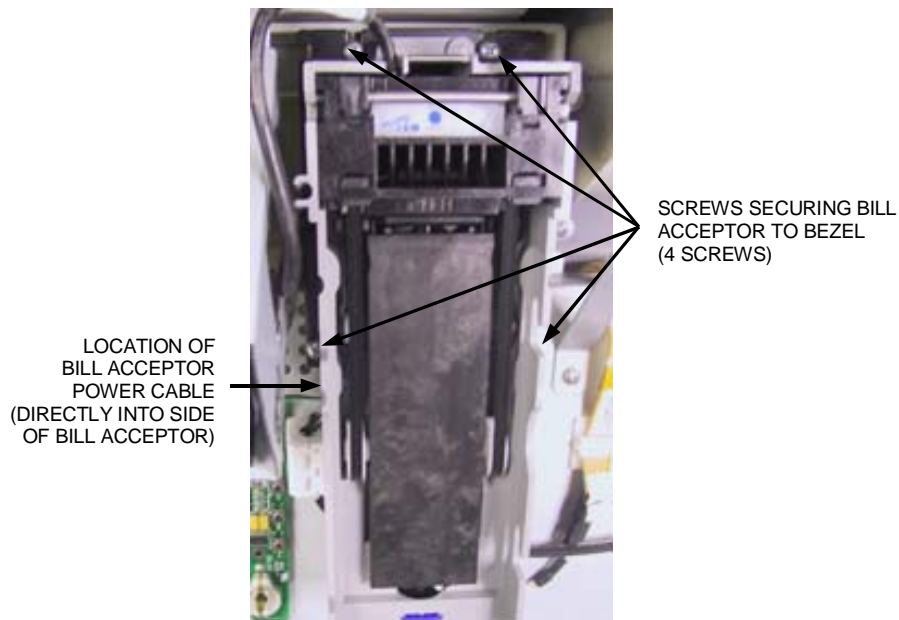

FIGURE 1 - BILL ACCEPTOR WITH MAGAZINE REMOVED
3. Pull out the bill acceptor magazine by pushing in the blue button at the bottom of the acceptor and then sliding the magazine down and out. Remove the four screws securing the bill acceptor to the bill acceptor bracket (see Figure 1).
4. Remove the bill acceptor from the unit and disconnect the bill acceptor power cable that runs into the side of the bill acceptor (see Figure 1).
1. Connect the existing bill acceptor power cable to the bill acceptor (see Figure 1).
2. Place the bill acceptor into place in the unit and secure it with the same four screws (see Figure 1). If you removed the bracket above the bill acceptor, resecure it to the unit. Slide the bill acceptor magazine back on to the bill acceptor.